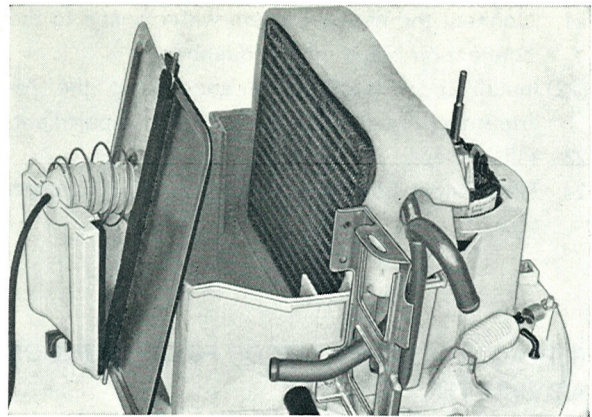

Fig. 8-87. Placing cell assembly
3. Remove the air intake left shutter shaft locking (2).
4. Remove the screws (3) for the inner end and lift off the end.
5. Remove the screws for the blower motor retainer (4).
8. Place the new cell assembly with insulation in position in the right half of the central unit (Fig. 8-87).